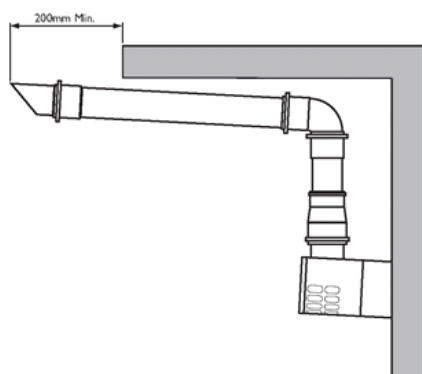

Fig. 21r
22. When the plume outlet is positioned under a balcony or other projection (Fig. 21r) it must protrude at least 200mm (it is not necessary to extend it further than this).